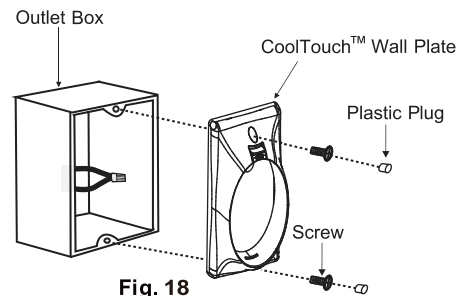

Fig. 18
**Step 2.** Install the CoolTouch™ wall plate to the existing wall outlet box with 2 screws provided. Insert the two plastic plugs into the wall plate. (Fig. 18)